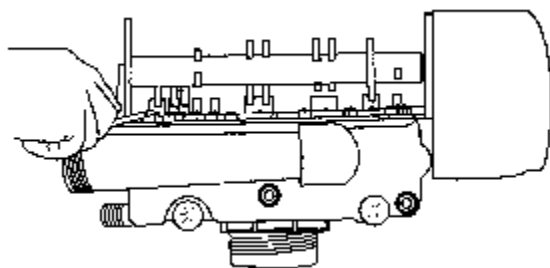

Figure 8
3. Relieve system pressure by opening Valve No. 7 (at rear) with a screwdriver, (Figure 8).
2. Relieve pressure by opening the Backwash Drain Valve (the seventh back from the control) with a screwdriver (Figure 8).
3. Remove cover and with screwdriver, relieve tank pressure by pushing open valve no> 7 (rear flapper) on control as shown (Figure 8).